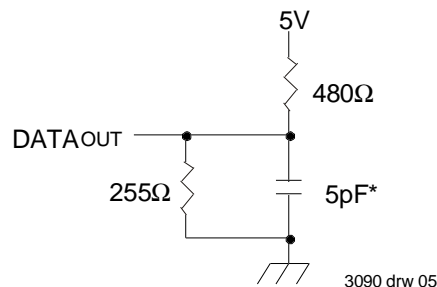

Figure 2. AC Test Load
- This parameter is guaranteed with AC Test load (Figure 2) by device characterization, but is not production tested.
3. This parameter is guaranteed with the AC Load (Figure 2) by device characterization, but is not production tested.